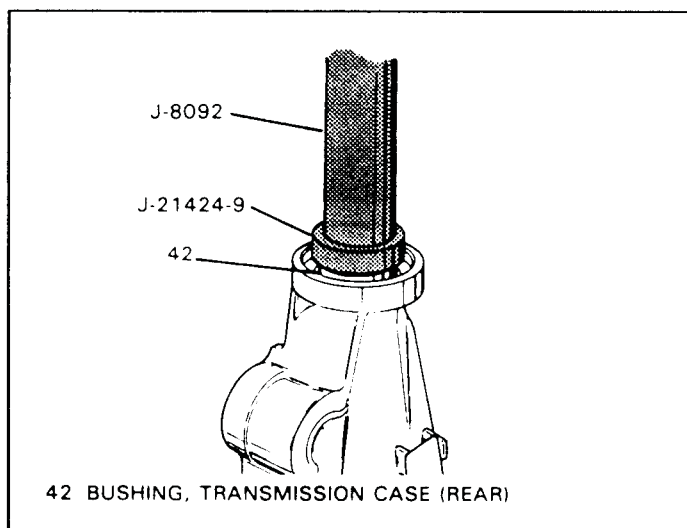

Figure 60
4. Install new case extension bushing as necessary, using bushing driver as shown in Figure 60.